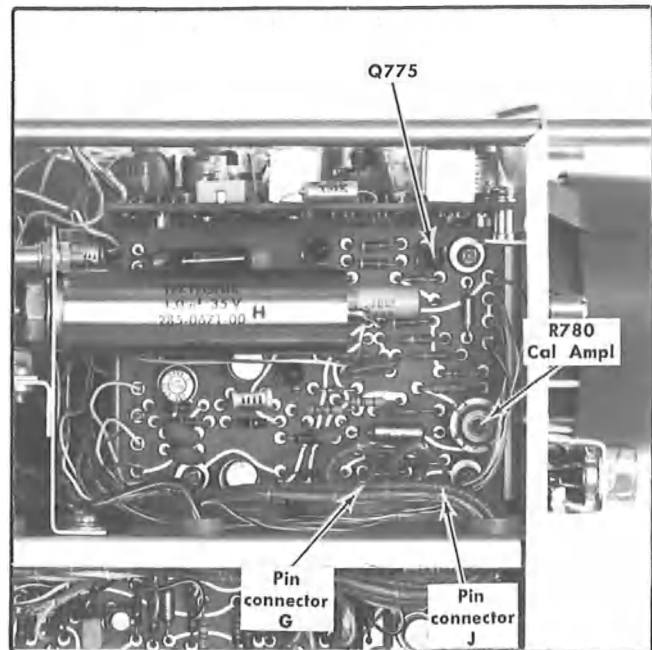

Fig. 5-32. Location of calibrator test points and amplitude adjustment (Calibrator and Regulator board).
- Connect the precision DC voltmeter from pin connector G on the Calibrator and Regulators board (see Fig. 5-32) to chassis ground.
- Remove transistor Q775 (see Fig. 5-32) from its socket.
- ADJUST—Calibrator Amplitude adjustment R780 (see Fig. 5-32) for exactly -2 volts.
- Connect the precision DC voltmeter from pin connector J on the Calibrator and Regulators board (see Fig. 5-32) to chassis ground.